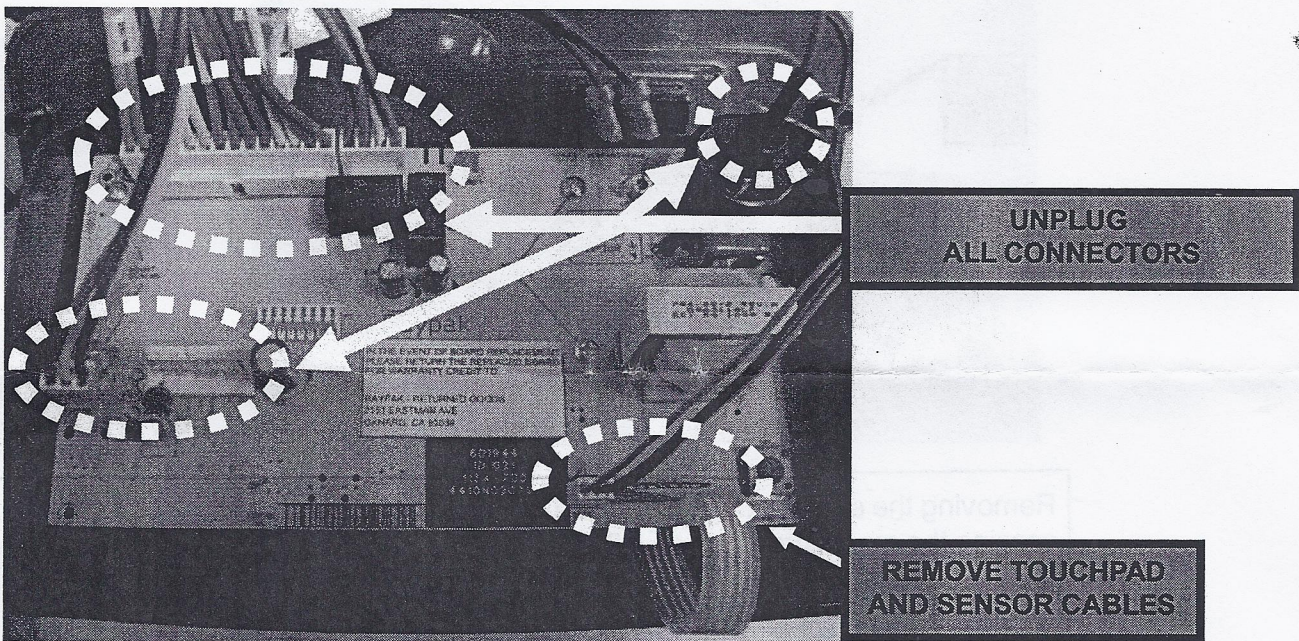

Fig. 5
1. Unplug all connectors from old circuit board. See Fig. 5.